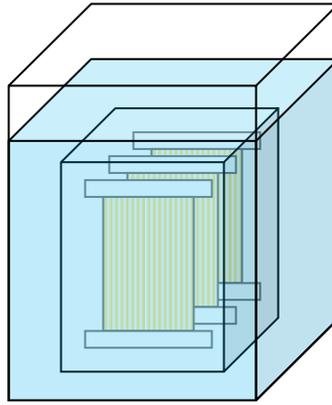

Figure 3-1 Diagram of a Module Immersed in a Washing tank
2. **Immerse the module in the chemical soak cleaning tank under the conditions stated above Figure 3-1.**